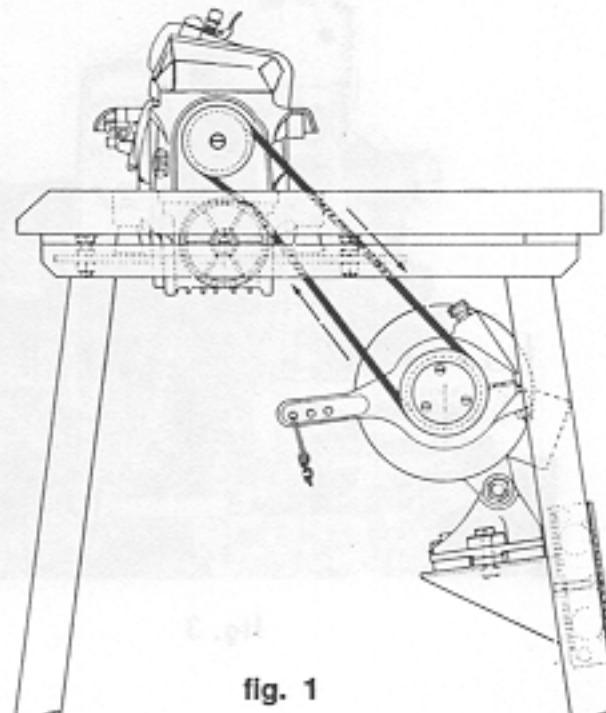

fig. 1
1. Fit the transmission belt as in fig. 1.